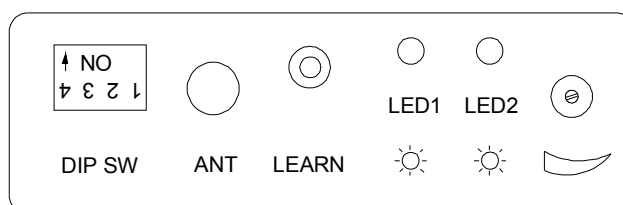

Fig.9
- **Adding extra remote controls (Learn):** Remove the cover, press the 'LEARN' button (Fig.9), then the red 'LED2' (Fig.9) will be on and turn off, then press the remote control button which you want to use, the 'LED2' will turn on about 2 seconds and then turn off again. The learning process is finished.
(See Fig.9)
- Set auto-close function (This feature can be selected to make the gate stay open for some seconds before it automatically closes. The auto-close time can be adjusted to between 0 and 44 seconds.): Turn on the second and the third DIP-switch (See Fig.9) to ON position. Press the remote control button (button 1, button 2 or button 3) that has been programmed to open the gate (see **Verify open direction** section). Stop the gate at any position by pressing the same button, wait a few seconds according to your requirements (the range is 1~44 sec.), this period of time is regarded as 'auto-close time'. Close the gate by pressing the same button. Press the button again to stop the gate or the gate will stop automatically at its closed position if the limit switch is reached. After this setup is complete, return DIP-switch 3 to OFF position immediately. Thus the **auto-close function** has been set.
- Cancel auto-close function: Turn on the second and the third DIP-switch (see Fig.9) to ON position. Press the remote control button (button 1, button 2 or button 3) that has been programmed to open the gate (see **Verify open direction** section). Stop the gate at any position by pressing the same button, wait until the gate close automatically (45 sec.). Press the same button to stop the gate or the gate will stop automatically at its closed position if the limit switch is reached. After this setup is complete, return DIP-switch 3 to OFF position immediately. Thus the auto-close function has been canceled.
\* Set width of pedestrian mode: Turn on the second and the third DIP-switch (See Fig.9) to ON position. Press button 4 to open the gate (see **Verify open direction** section), Wait
\* Set auto-close function of pedestrian mode: Turn on the second and the third DIP-switch (See Fig.9) to ON position. Press button 4 to open the gate (see **Verify open direction** section), wait some seconds (3~10 sec.). Then press the same button/button 4 to stop the gate, wait some seconds according to your requirements (1~44 sec.), this period of time is regarded as 'auto-close time of pedestrian mode'. Close the gate by pressing the same button/button 4. Press the same button again to stop the gate or the gate will stop automatically at its closed position if the limit switch is reached. After this setup is complete, return DIP-switch 3 to OFF position immediately. Thus the **auto-close function of pedestrian mode** has been set.
\* Cancel both width and auto-close function of pedestrian mode: Turn on the second and the third DIP-switch (See Fig.9) to ON position. Press button 4 to open the gate (see **Verify open direction** section). Wait for more than 15 sec.. Then press the same button/button 4 to stop the gate. Wait until the gate close automatically (45 sec.). Press the same button to stop the gate or the gate will stop automatically at its closed position if the limit switch is reached. After this setup is complete, return DIP-switch 3 to OFF position immediately. Thus the width and auto-close function of pedestrian mode have been canceled.
\* Cancel width of pedestrian mode, keep auto-close function of pedestrian mode: Turn on the second and the third DIP-switch (See Fig.9) to ON position. Press button 4 to open the gate (see **Verify open direction** section). Wait for more than 15 sec.. Then press the same button/button 4 to stop the gate. Wait some seconds according to your requirements (1~44 sec.). Then press the same button/button 4 to close the gate, press the same button again to stop the gate or the gate will stop automatically at its closed position if the limit switch is reached. After this setup is complete, return DIP-switch 3 to OFF position immediately. Thus the width of pedestrian mode has been canceled, the auto-close function of pedestrian mode has been reserved.
\* Keep width of pedestrian mode, cancel auto-close function of pedestrian mode: Turn on the second and the third DIP-switch (See Fig.9) to ON position. Press button 4 to open the gate (see **Verify open direction** section). Wait some seconds (3~10 sec.), then press the same button/button 4 to stop the gate. Wait until the gate close automatically (45 sec.). Press the same button again to stop the gate or the gate will stop automatically at its closed position if the limit switch is reached. After this setup is complete, return DIP-switch 3 to OFF position immediately. Thus the width of pedestrian mode has been reserved, the auto-close function of pedestrian mode has been canceled.
- (1) **You must follow the operating instruction as above, any wrong operation is not allowed during setting. If your device responds to your requested function correctly, you have set the function successfully, otherwise repeat the above setup instruction until your device responds to your expected function.**
- (2) **If the gate can not be moved, please check whether the gate is obstructed or gate is too weight.**
- Adjustment of the auto-reverse function: rotate the 'Force Adj. 'VR1' knob (Fig.9) with a screwdriver, the resistance may be increased or decreased by rotating clockwise or counterclockwise. Note: if the gate fails to reverse in the event of obstruction, then the opening force or closing force should be checked for conformity with requirements and adjusted accordingly. The gate will reverse if obstructed when closing, and will stop if jammed when opening.